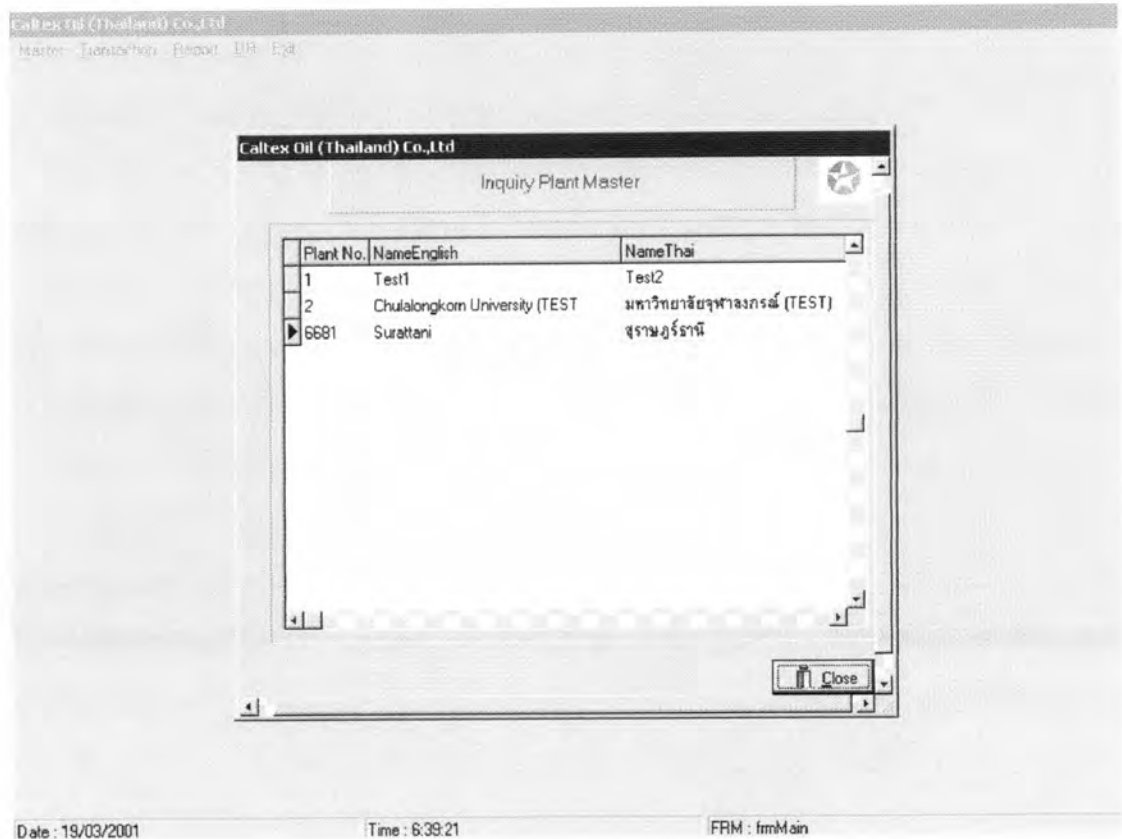

Figure 4-12 Inquiry Plant Menu
c) Inquiry plant data (see figure 4.12)